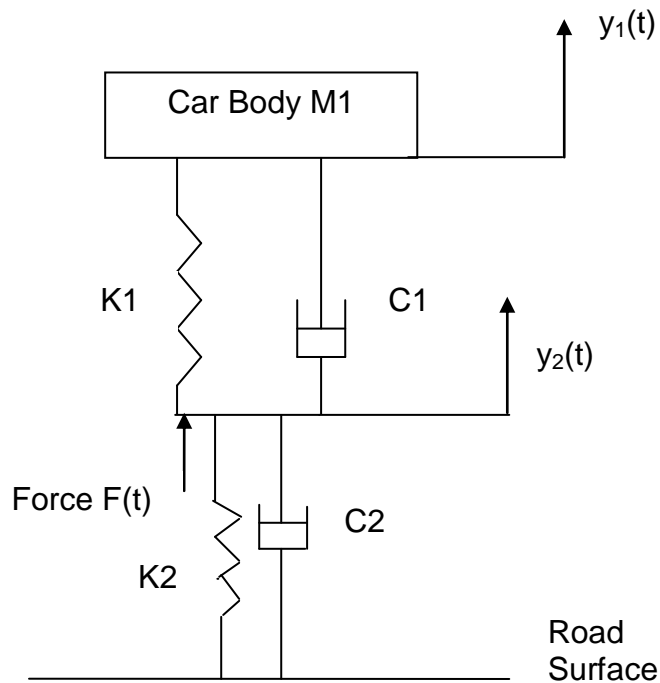

Figure Q1 Schematic Diagram of a Quarter Automobile Model
- Q1. (a) An automobile suspension system is shown in Figure Q1. It is assumed that the wheel is a spring. The input of the system is the force $F(t)$ and the output is the displacement $y_1(t)$.